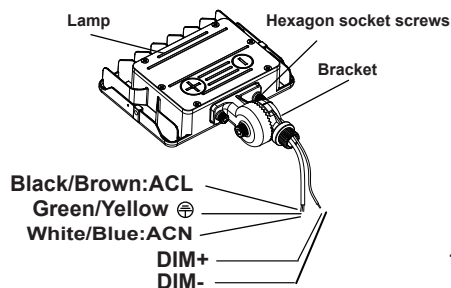

figure 1.4
Step 2: Connect the wires properly according to the right wiring requirements (pay attention to positive wire, negative wire and ground wire) and then put the wires into lamp pole. (figure 1.4)